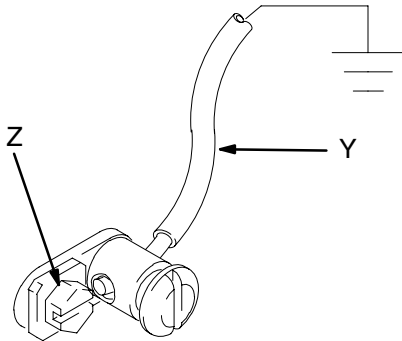

Fig. 1
1. *Pump*: check ground wire and clamp. See Fig. 1. Remove the ground screw (Z) and insert through eye of ring terminal at the end of ground wire (Y). Fasten ground screw back onto pump and tighten securely. Connect the other end of the wire to a true earth ground. Order Part No. 222011 ground wire and clamp.